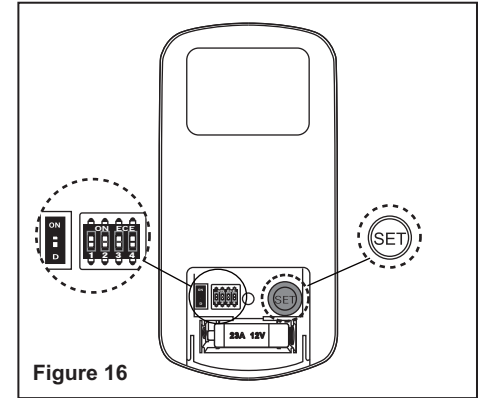

Figure 16
a) Select desired frequency from the transmitter. The dip switches can be set to 16 different combinations. (Fig. 16)
b) From the back of the transmitter, with the fan’s power off, restore power to the fan. Press and hold “SET” button for about 5 seconds and release. If optional light kit is installed, the light kit will flash twice and the signal light on the hand held transmitter will come on when the button is pressed. The fan has completed the pairing process with the remote control and is ready for use. (Fig. 16)
1. The “ON” selection is the light dimmable selection and is to be used with all bulbs except for CFL bulbs. The “D” selection is the light ON only (no dimming function) and is to be used with CFL bulbs as CFL bulbs in most cases cannot be used with dimming controllers. (Fig. 16)